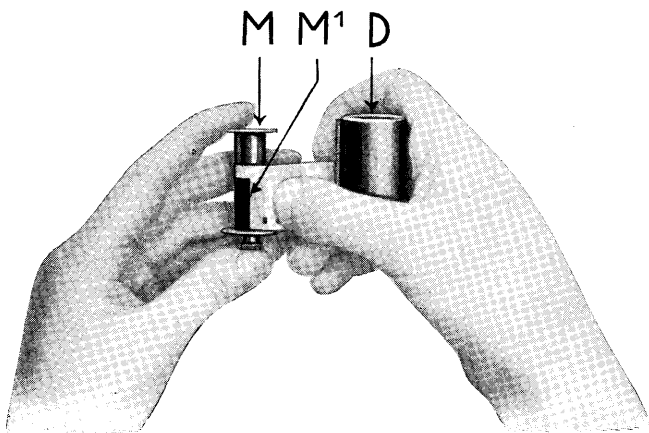

Fig. 15
4. Hold receiving spool **M** with left hand and the loaded chamber **B** in the right, as shown in Fig. 15. Clamp the beginning of the film (**emulsion side outwards**) under the spring **M¹** of the receiving spool. (The perforated edge of the film should lie right against the flange with knob.) Do not, however, wind film on. The tapering of the film should begin close to the slot of the chamber.